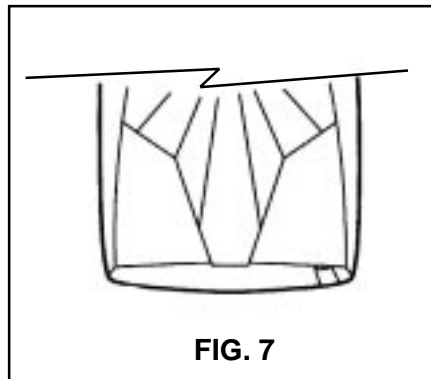

FIG. 7
7. Close the top flap protector by tucking the "tongue" underneath the flaps (FIG. 7).